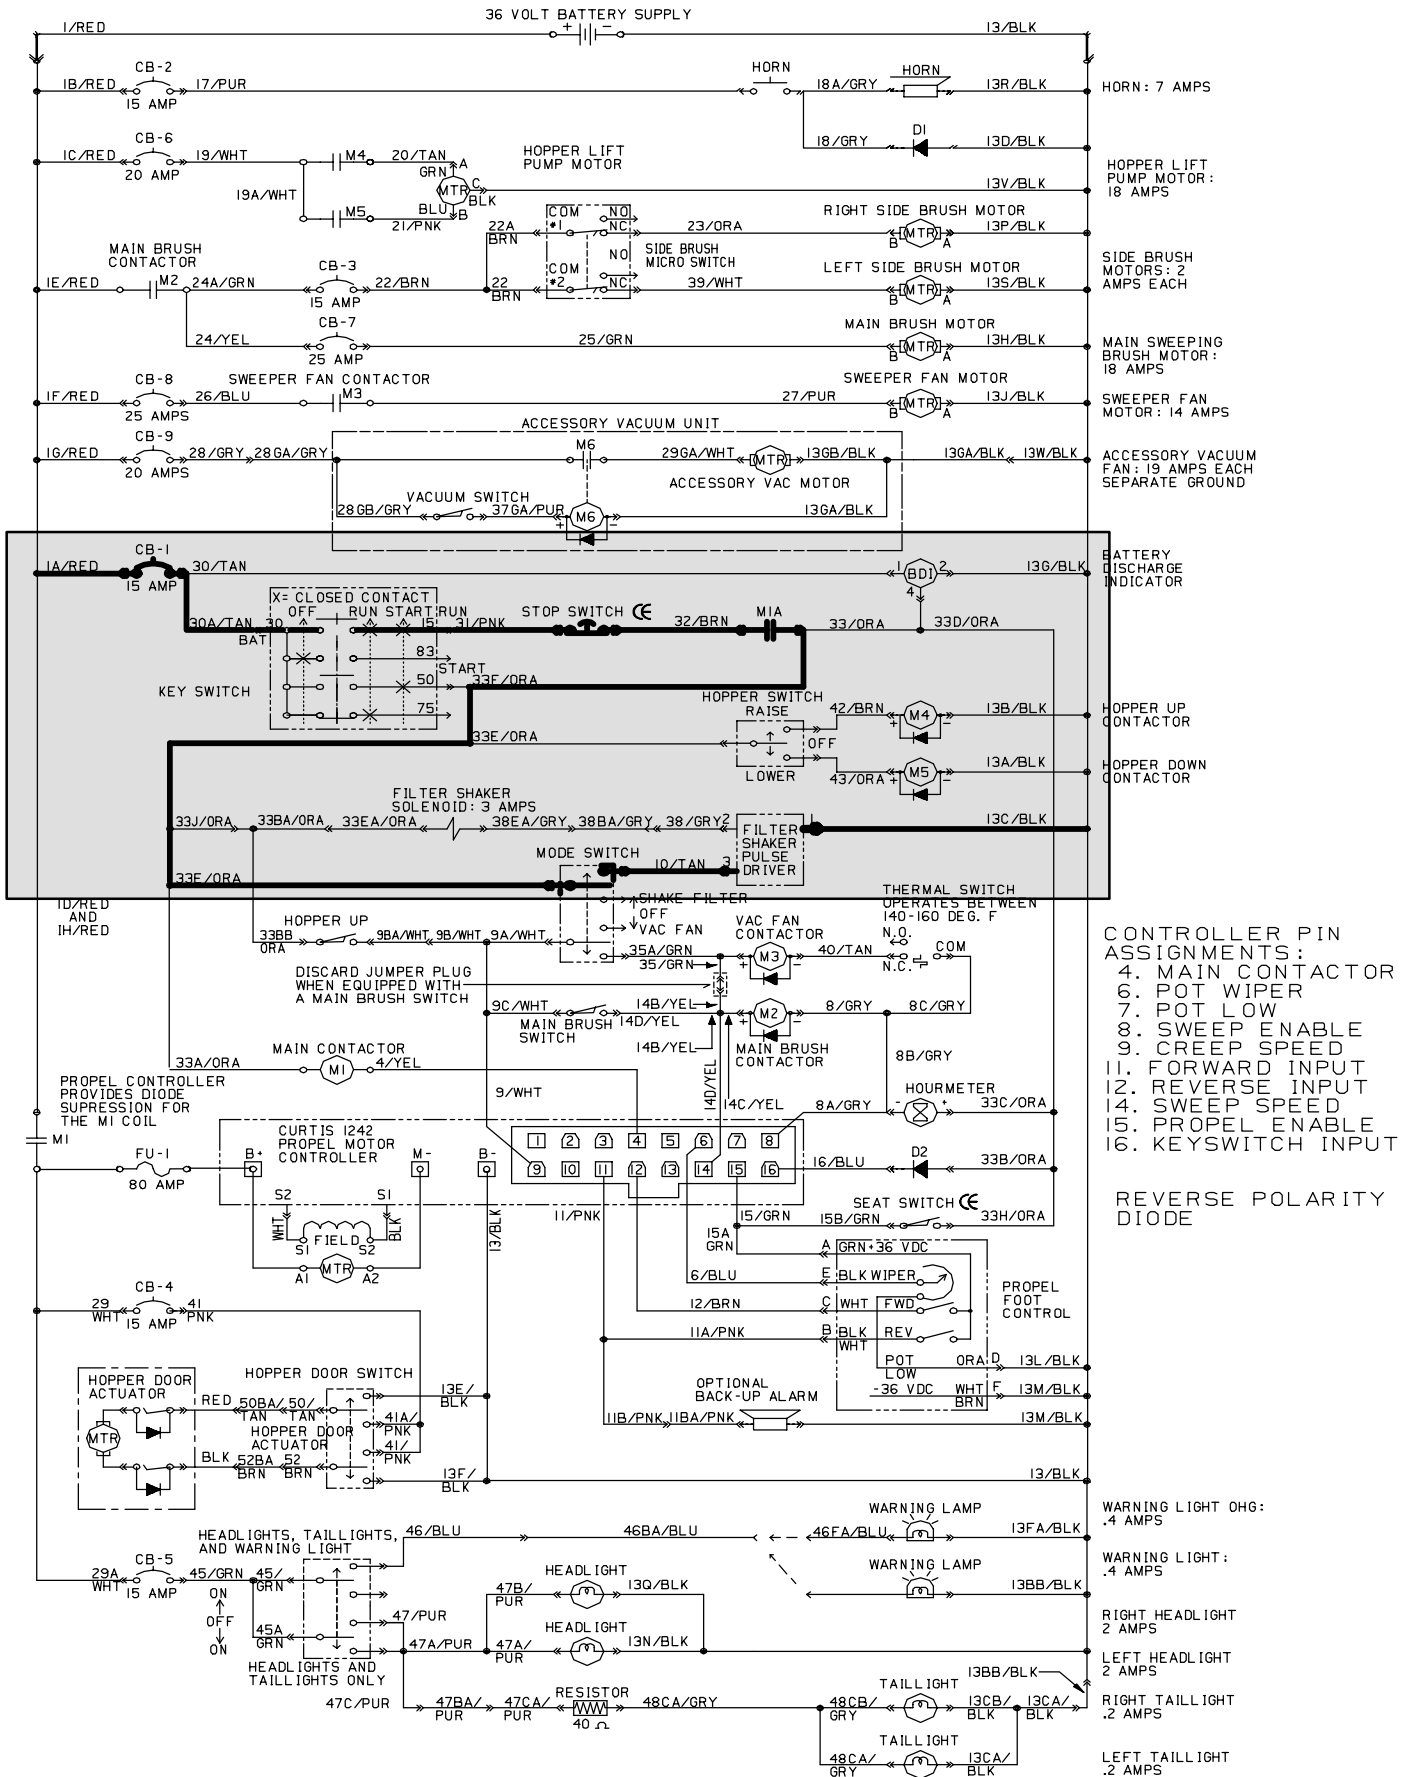

Fig. 12
1. Control circuit. (see fig. 12)